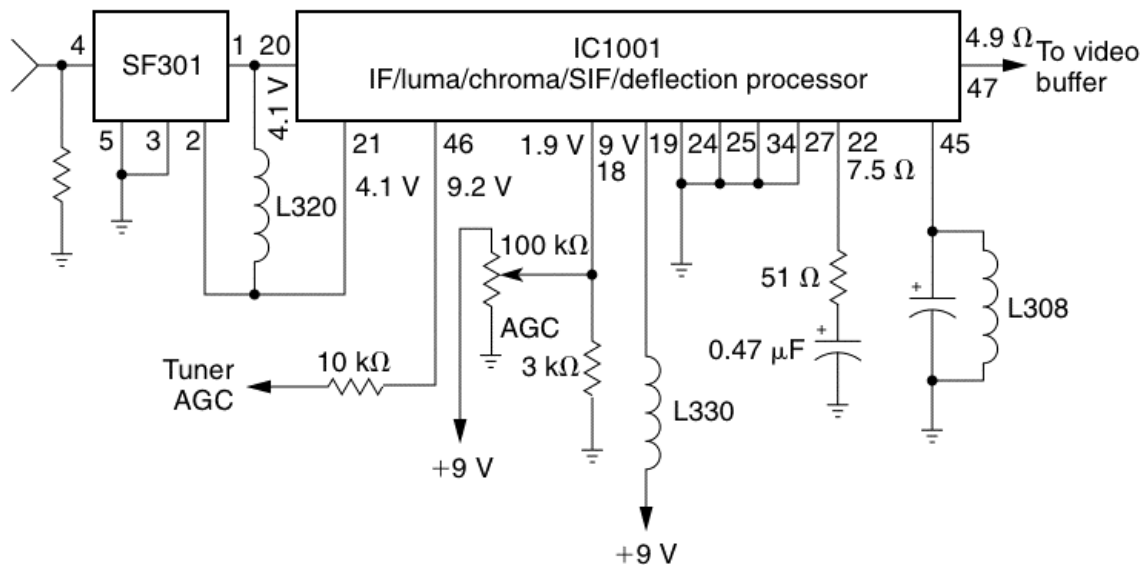

FIGURE 7-18 The latest IF circuits are included in one large IC with luma, chroma, SIF, detection, horizontal, and vertical circuits.
The large IC might have an IF preamp transistor and SAW filter within the input circuits, between tuner and IC1001 (Fig. 7-18). RF and IF AGC circuits are included with picture IF input pin 21, RF AGC out pin 46, RF AGC delay pin 18, picture AGC pin 22, RF supply voltage pin of 9 volts (19), PIF AGC TC pin 23, video detector tank pin 45, AFT output 42, and pin 47 of video output.